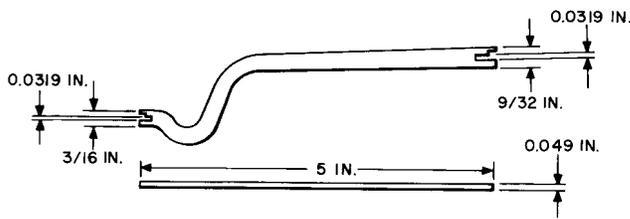

Fig. 8—AECO H-14769 Adjuster Tool
**2.08 AECO H-14769:** The AECO H-14769 tool (Fig. 8) is an armature backstop adjuster used on step-by-step type relays.